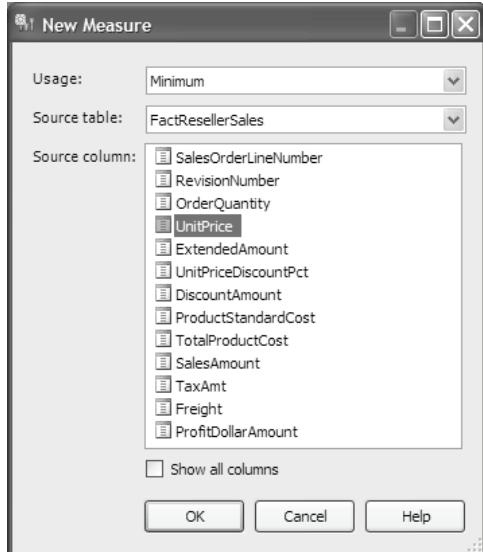

Figure 4.42 SSAS supports a variety of pre-defined aggregate functions to address common aggregation needs.
1. Right-click on the Reseller Sales measure group and choose *New Measure*. The New Measure dialog is shown (Figure 4.42).